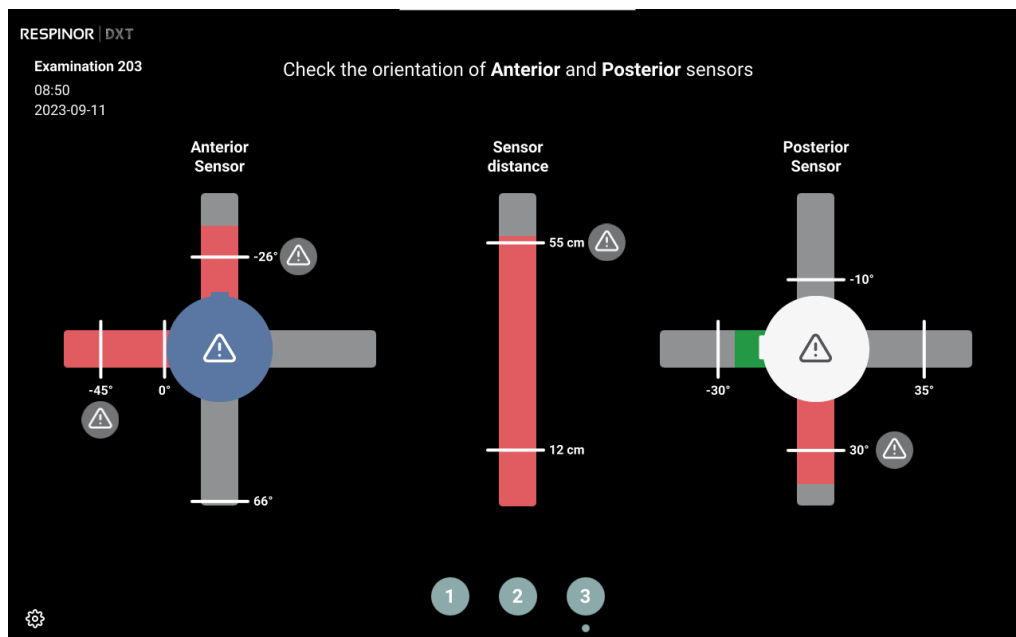

Figure 8. Example of incorrect Sensor orientation, and incorrect Sensor distance.
- Incorrect sensor positioning: if the sensor orientation is outside of the acceptable range, the associated axis turns red, and a warning symbol (⚠) appears (Figure 8). You cannot continue until the issue has been successfully resolved.
- **Example of incorrect sensor positioning in Figure 8:**